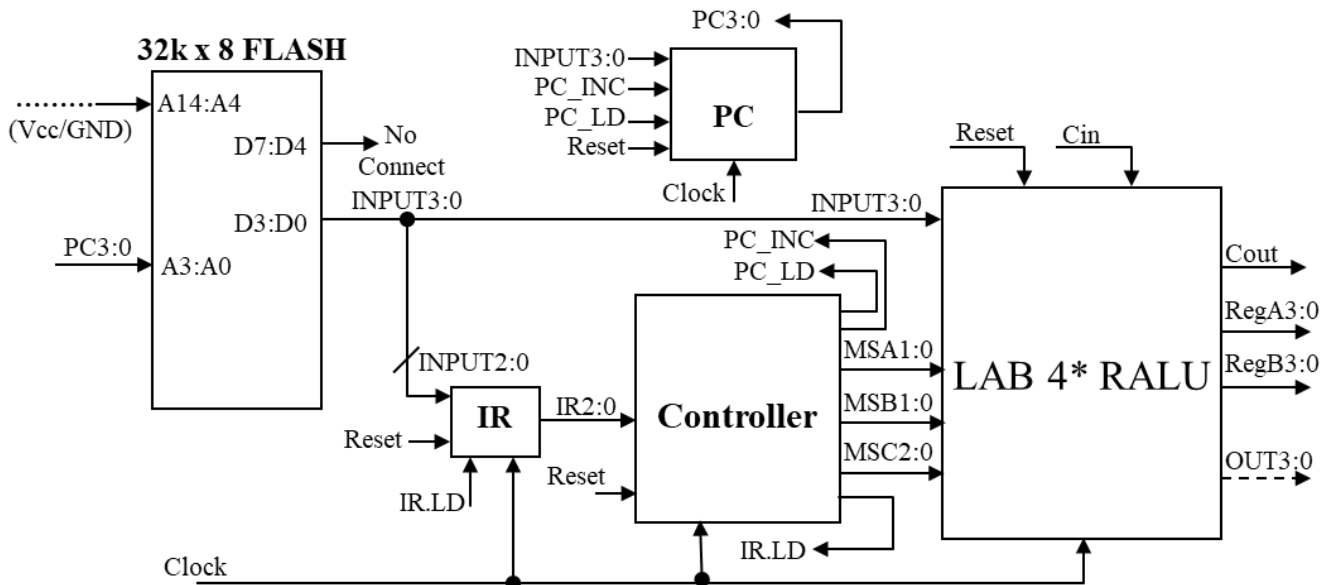

Figure 3. Block diagram of system hardware.
- As shown in Figure 3, a $32k \times 8$ EEPROM (or Flash) is added. The instructions and data will be stored in this EEPROM **starting in location \$37E0**.
- A program counter (PC) is added. PC is a 4-bit up-counter with a synchronous count enable signal (PC_INC). If PC_INC is TRUE, the counter will increment by 1 at the next active clock transition. If PC_INC is FALSE, the counter holds its current value. The count after 1111_2 is 0000_2 . Another synchronous signal, PC_LD, is used to load the counter from the INPUT bus. The 74'161 (with **asynchronous** clear) is ideally suited to function as a 4-bit PC. (The 74'163 is identical except that it has a **synchronous** clear.)